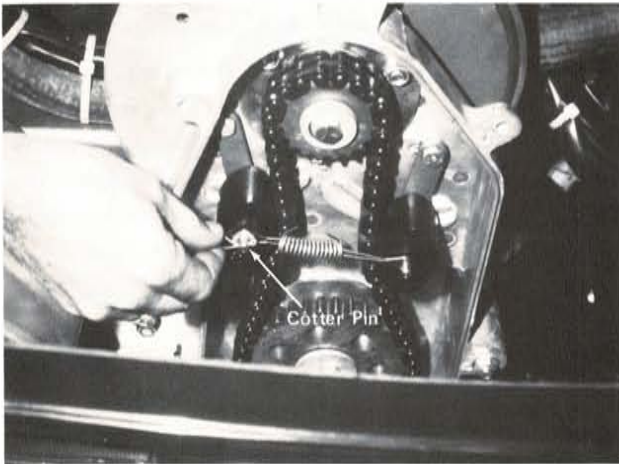

Fig. 11
5. Remove cotter pins that secures chain tensioner spring (Fig. 11).